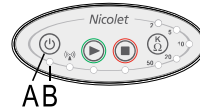

Figure 1
1. Press the **Power** button (A in Figure 1) for 3 - 5 seconds.